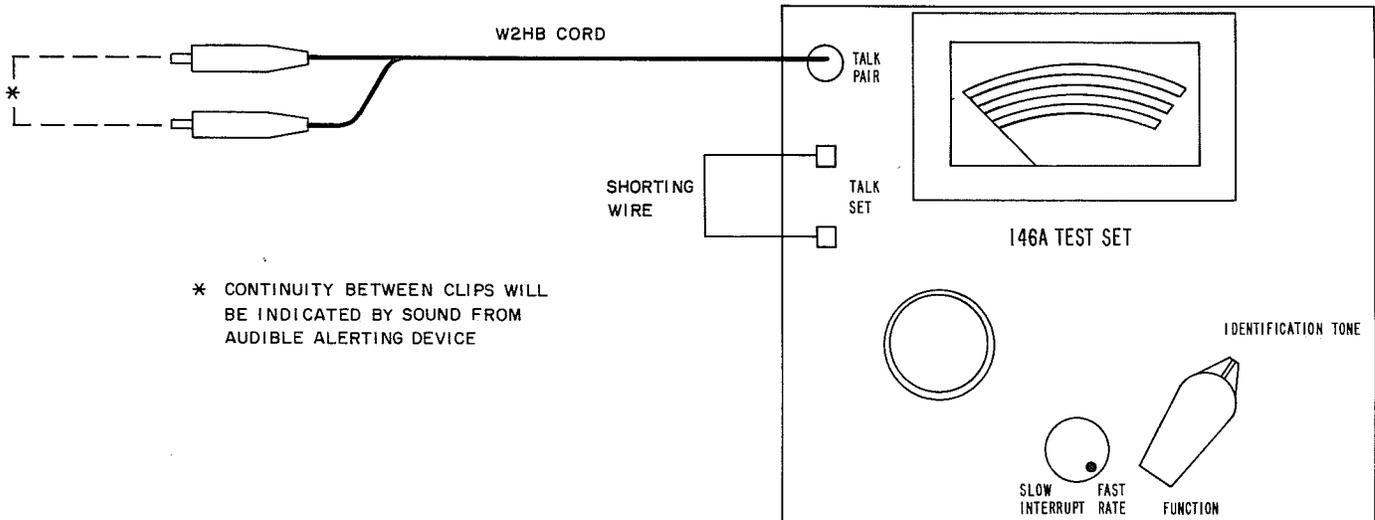

Fig. 16—Continuity Testing
8.01 The 146A test set can be used to verify dc paths up to several thousand ohms by using the audible alerting feature of the talking circuit. (See Fig. 16.)